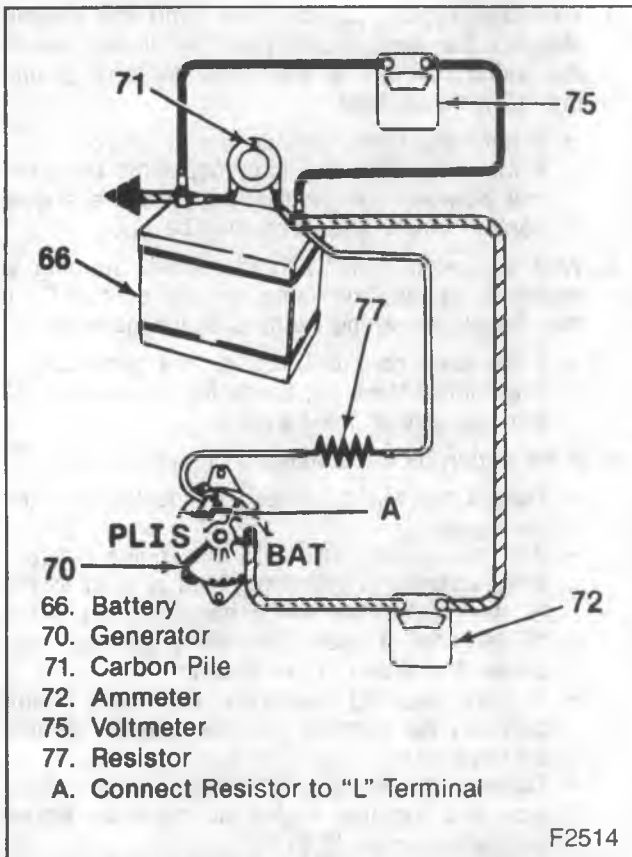

Figure 12—Connections for Bench Check Test
1. Make connections as shown in figure 12, but be sure to leave the carbon pile disconnected. The ground polarity of the generator and battery must be the same. The battery must be fully charged. Use a 30 to 500 ohm resistor between the battery and the "L" terminal.